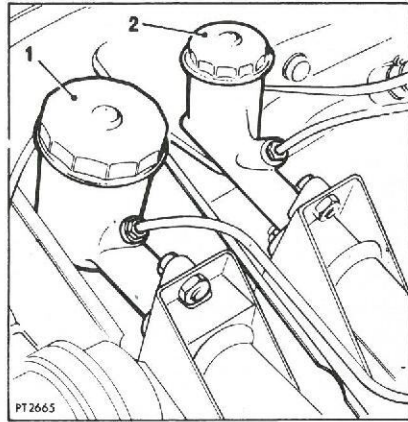

Fig. 4
**Brake fluid (Fig. 4)**
**Clutch fluid (Fig. 4)**